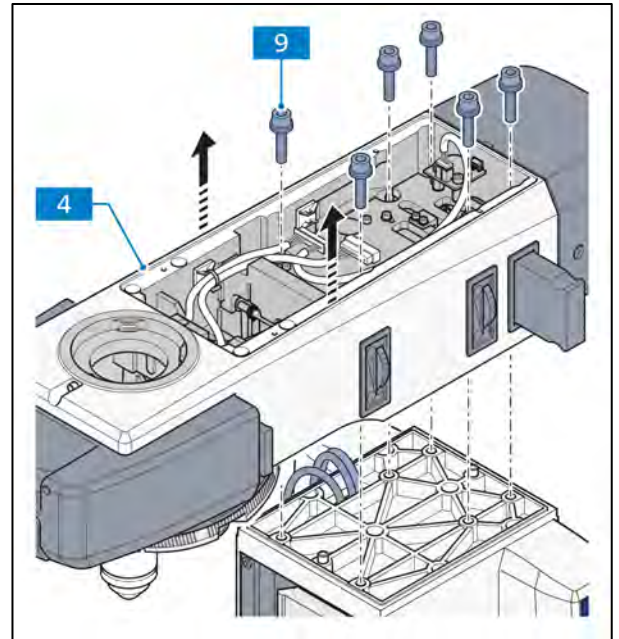

Fig. 3-55 Removing the upper stand part
- Hold the upper stand part (Fig. 3-55/4) and unscrew the 6 Allen screws (Fig. 3-55/9).